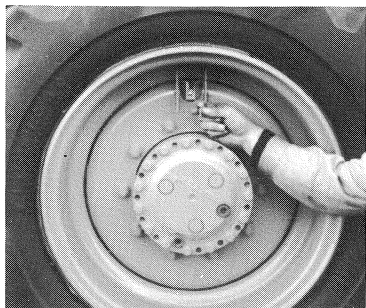

Fig. 59
2. Screw out valve insert and screw in connecting nut (Fig. 59)